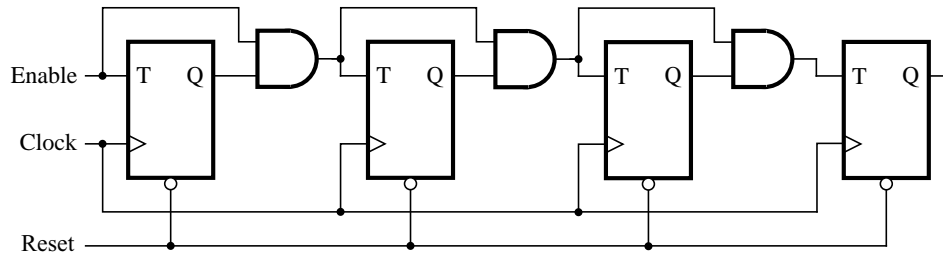

Figure 8. A 4-bit counter.
Consider the circuit in Figure 8. It is a 4-bit synchronous counter which uses four T-type flip-flops. The counter increments its count on each positive edge of the clock if the Enable signal is asserted. The counter is reset to 0 by using the Reset signal. You are to implement a 16-bit counter of this type.
1. Write a VHDL file that defines a 16-bit counter by using the structure depicted in Figure 8, and compile the circuit. How many logic elements (LEs) are used to implement your circuit? What is the maximum frequency, F_{max} , at which your circuit can be operated?
5. Implement a 4-bit version of your circuit and use the Quartus II RTL Viewer to see how Quartus II software synthesized your circuit. What are the differences in comparison with Figure 8?